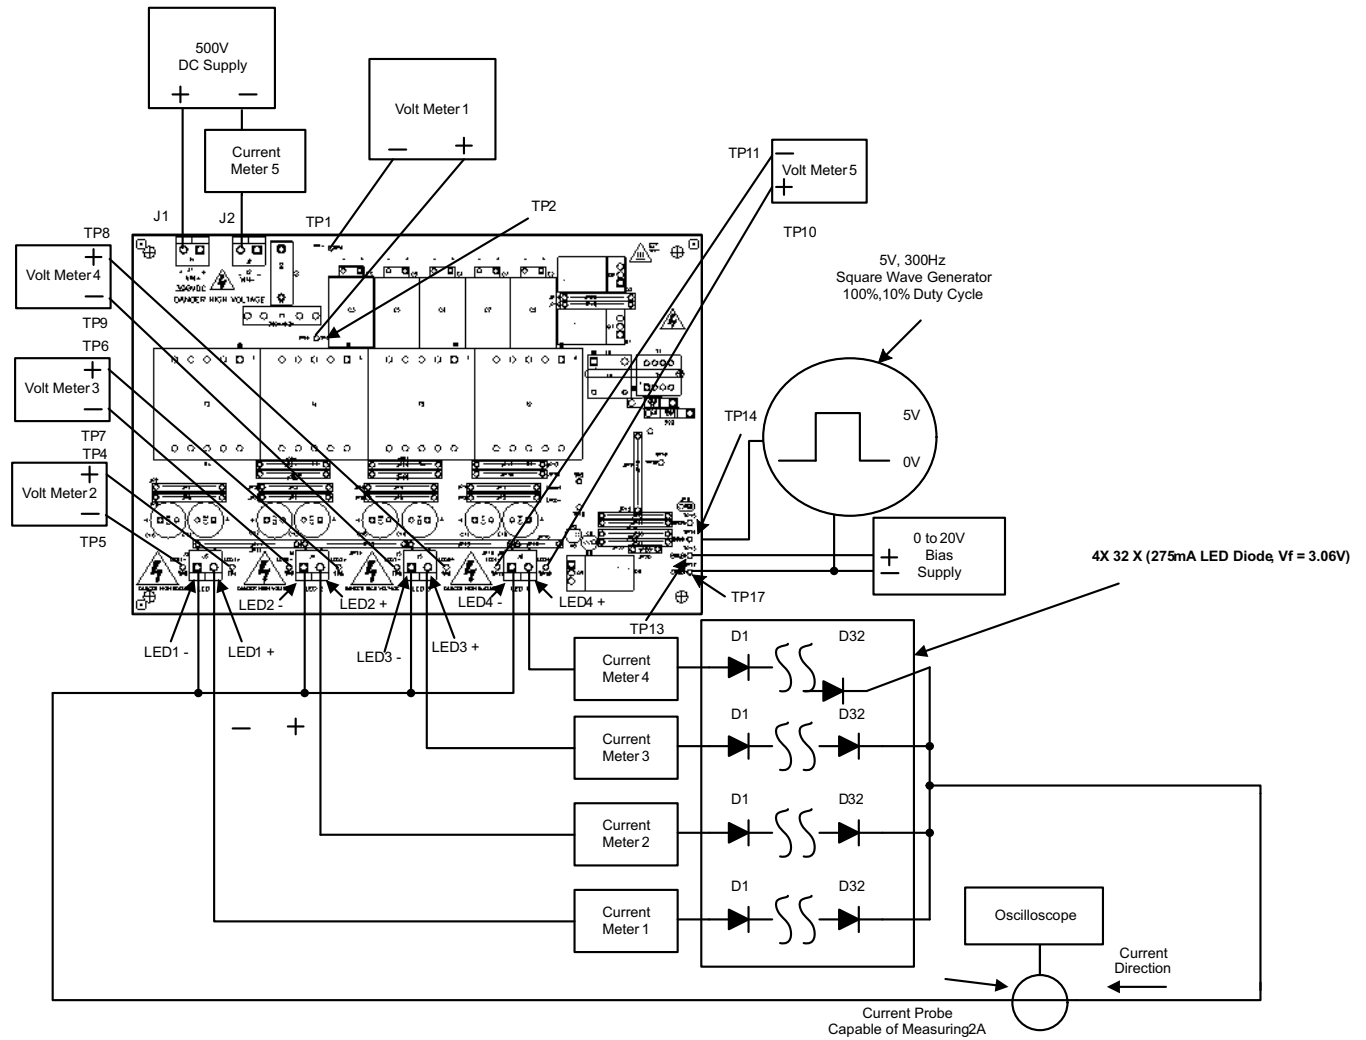
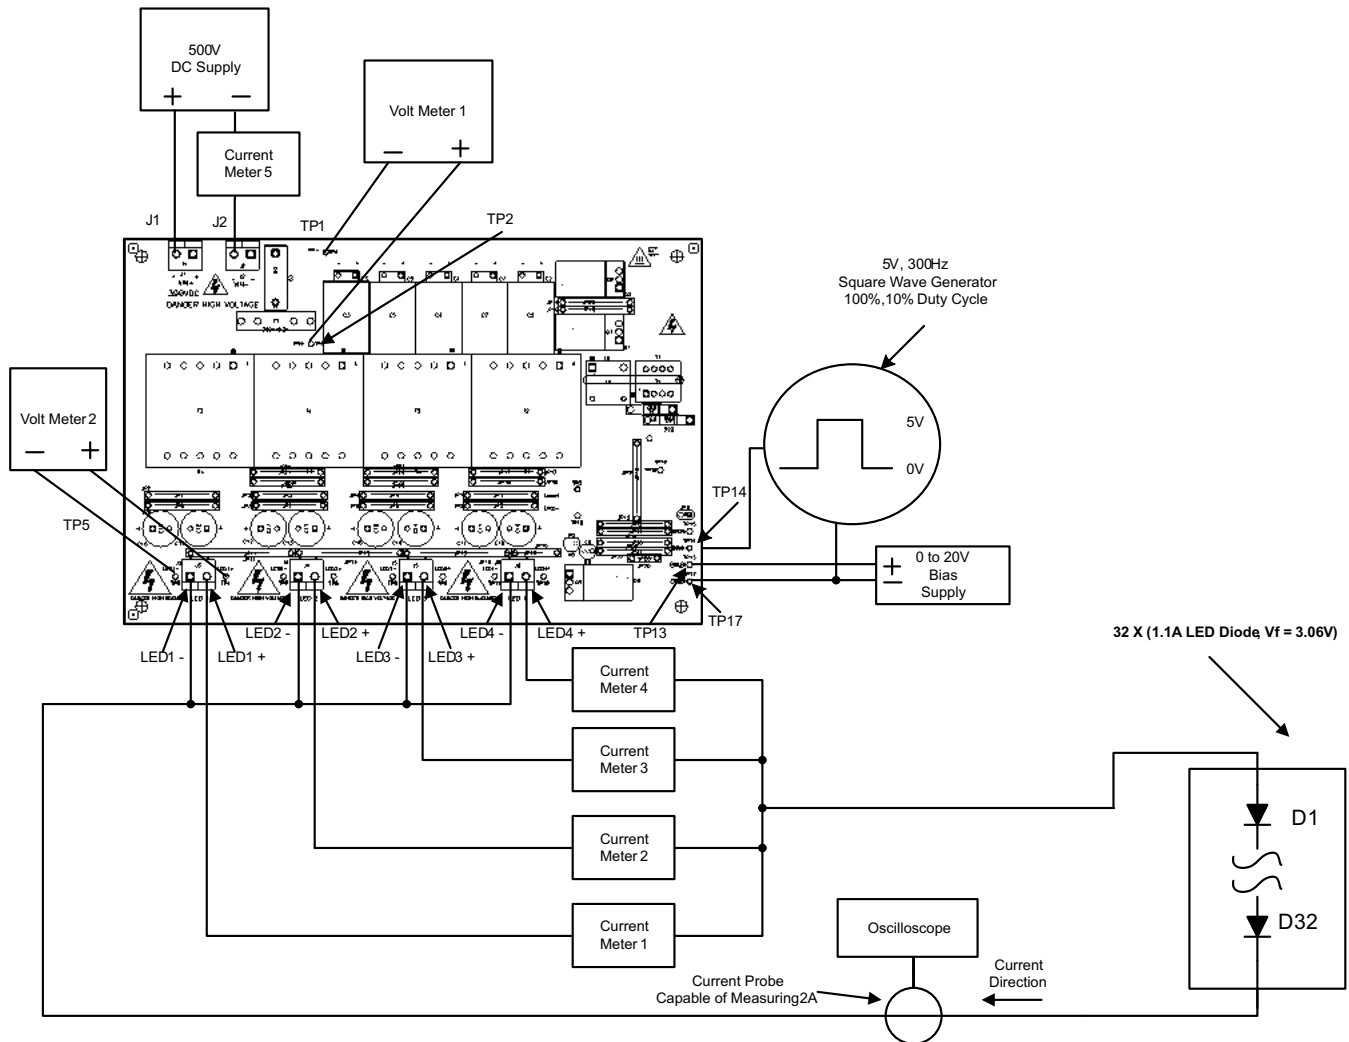

Figure 3. Setup 1 Evaluate Current Sharing With 4 x 32 x 275-mA LED Strings
Figure 4. Test Setup 2 Evaluate Current Sharing With 1 x 32 x 1.1-A LED String
This EVM was design to power LED diode loads only, for proper operation it is recommend that LED diodes be used. Please refer to Figure 3 and Figure 4 for example test setups.
3. Connect all bias supplies, loads and test equipment before applying power. Please look at Figure 3 and Figure 4 for examples of test setups that could be used.